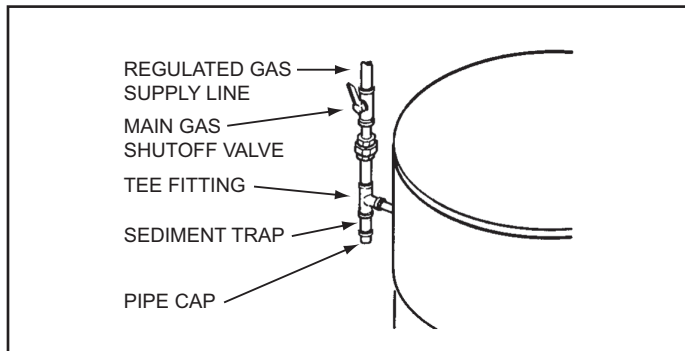

Figure 51. Supply Gas Line Installation
Ensure all gas pipe is clean on the inside before installation. To trap any dirt or foreign material in the gas supply line a sediment trap must be installed as shown in *Figure 51*. The sediment trap must be readily accessible and not subject to freezing conditions. Install in accordance with the recommendations of the local gas utility company.
7. Install a sediment trap as shown in *Figure 51* (page 40).
8. Install a Main Gas Shutoff valve in the supply gas line as shown in *Figure 51* (page 40).
1. For test pressures exceeding 1/2 psi (3.45 kPa) disconnect the water heater and its Main Gas Shutoff Valve from the gas supply piping system during testing. See *Figure 51* (page 40). The gas supply line must be capped when disconnected from the water heater.